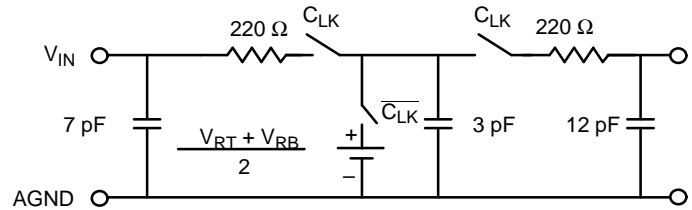

Figure 2. Input Equivalent Circuit
- See V_{IN} input equivalent circuit (Figure 2.). Switched capacitor analog input requires driver with low output resistance.
The ideal ADC is a linear building block that has infinite bandwidth and no phase distortion. A real ADC, however, exhibits finite bandwidth and non-constant group delay characteristics as well as non-linear behavior due to the non-zero INL characteristic. When modeling the ADC as a linear element and a quantizer, the circuit shown in Figure 2. can be used in order to represent the ADC's bandwidth.
1. Driving the analog input – The input impedance can be represented as a switched capacitor type input circuit, i.e. the input impedance changes with the phase of the input clock. Figure 2. shows an equivalent input circuit. In many applications, the input impedance can be treated as capacitive. For fast signals and a high driving impedance, a wide bandwidth op amp is recommended.